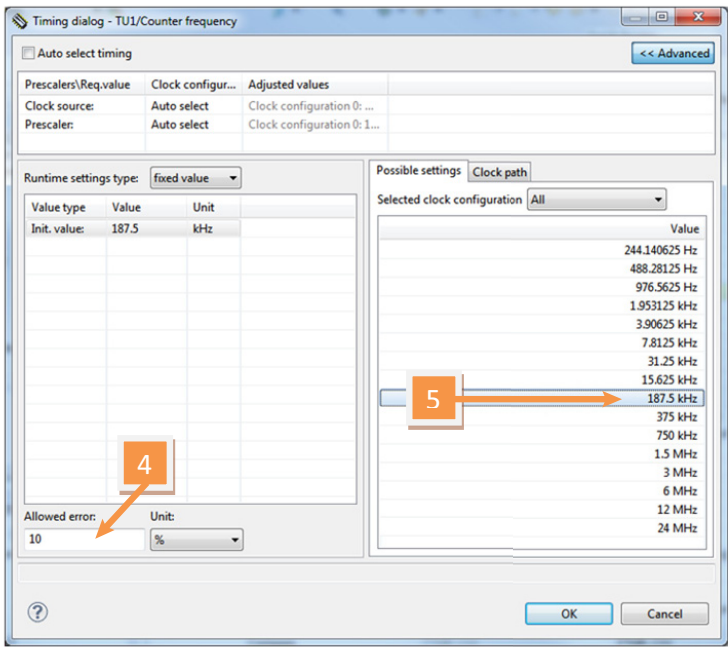

Figure 24. Component TimerUnit_LDD Timing dialog—select Input Frequency
- d) Set the Allowed Error value at 10% (see Figure 24).